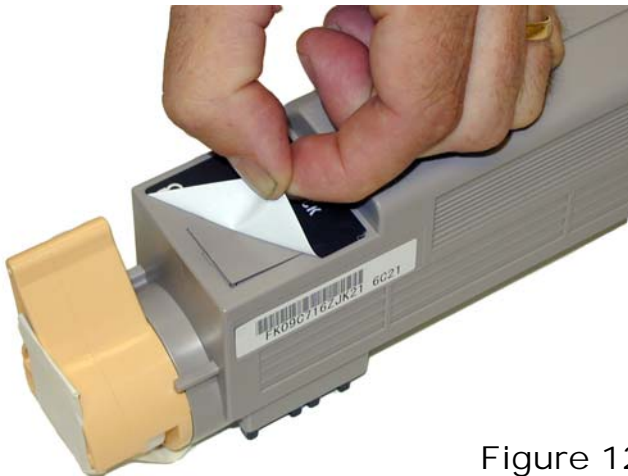

Figure 12
- 3) Carefully peel up the part number label off the handle side of the tube. See **Figure 12**